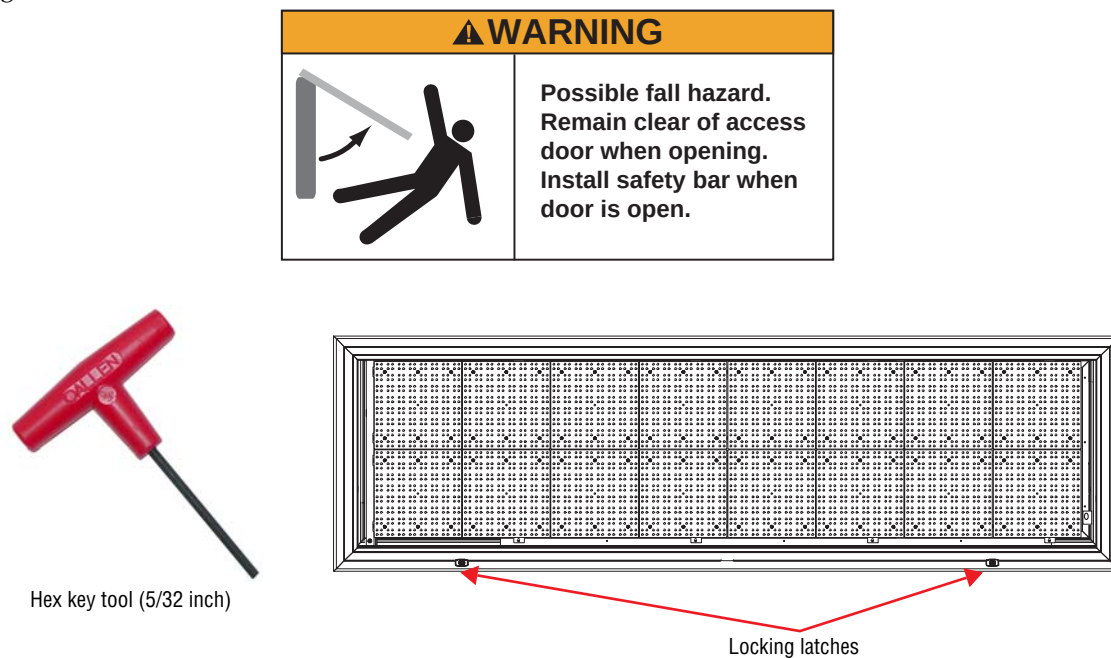

Figure 16: Opening/closing sign door
19. With a hex key tool, use the locking latches to close sign door. See Figure 16, "Opening/closing sign door," on page 48.